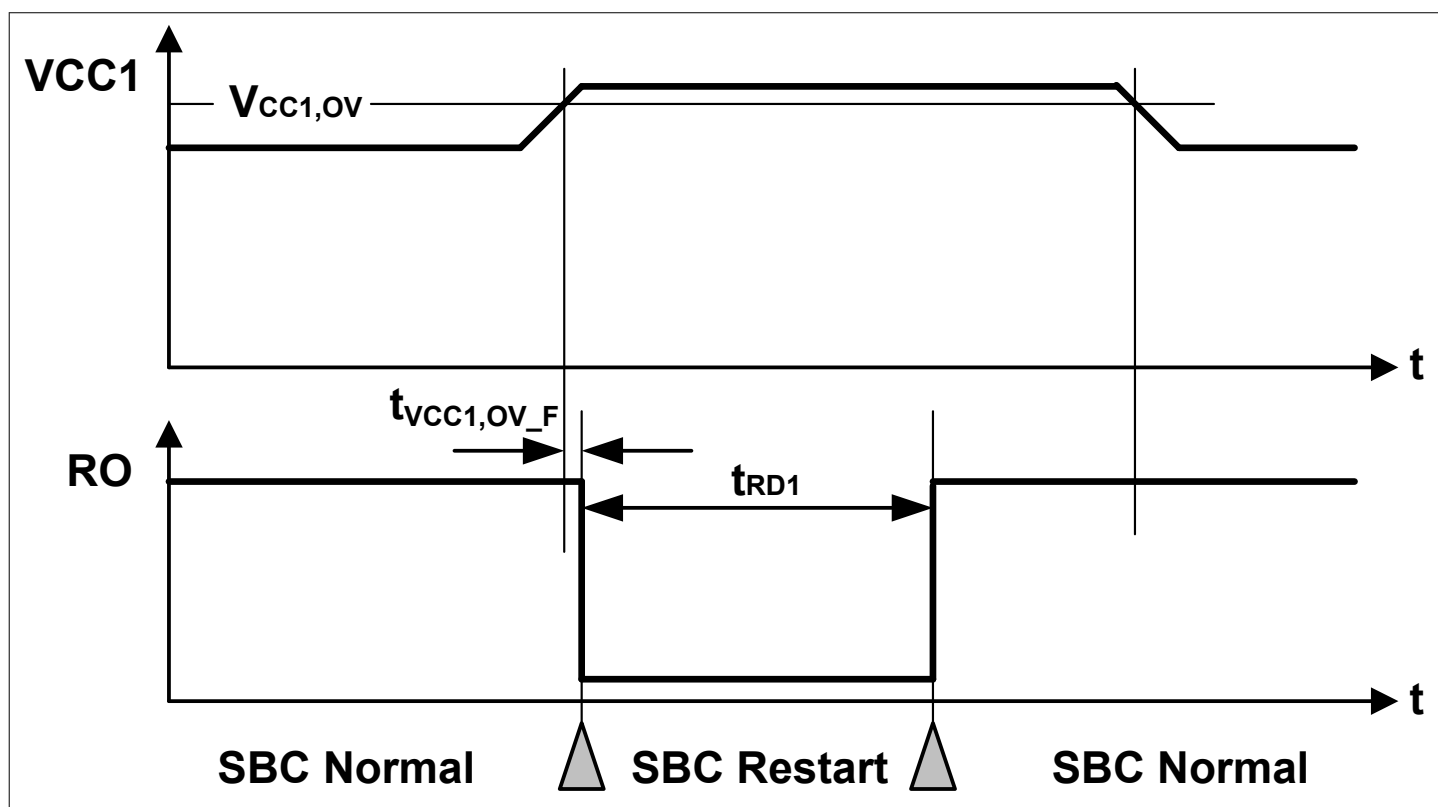

Figure 58 VCC1 Overvoltage Timing Diagram
- If the bit `VCC1_OV_RST` is set and `CFG_P` = '1', then SBC Restart Mode is entered. The FOx outputs are activated. After the reset delay time (`t_RD1`), the SBC Restart Mode is left and SBC Normal Mode is resumed even if the VCC1 overvoltage event is still present (see also Figure 58). The `VCC1_OV_RST` bit is cleared automatically;